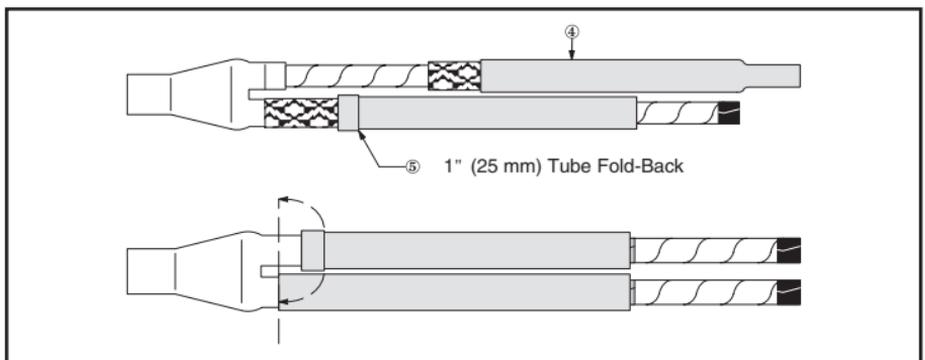

Figure 3
5. Install re-jacketing sleeve assemblies (Figure 3):
- a. Open polyester braid end and push assembly into place (④, Figure 3).
- b. Slide assembly close to desired final position and fold silicone sleeve back on itself for 1" (25 mm) (⑤, Figure 3).
- c. Trim off exposed polyester braid material (⑤, Figure 3).
- d. Push assembly into final position (adjacent to finger of breakout boot if used) and flip silicone sleeve into place (Figure 3).